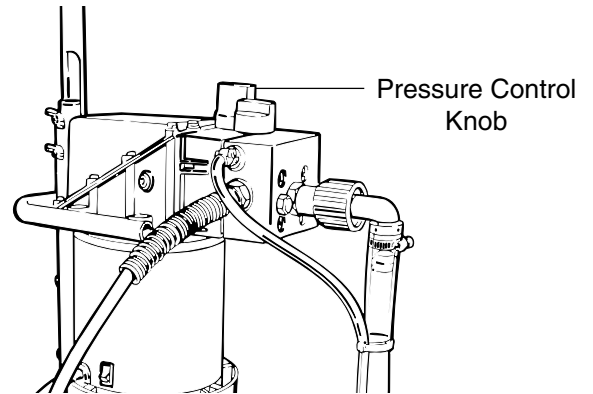

Figure 18 - Set Pressure Control Knob
1. Make sure the PRESSURE CONTROL KNOB is at its lowest setting (**counterclockwise**). See Figure 18.